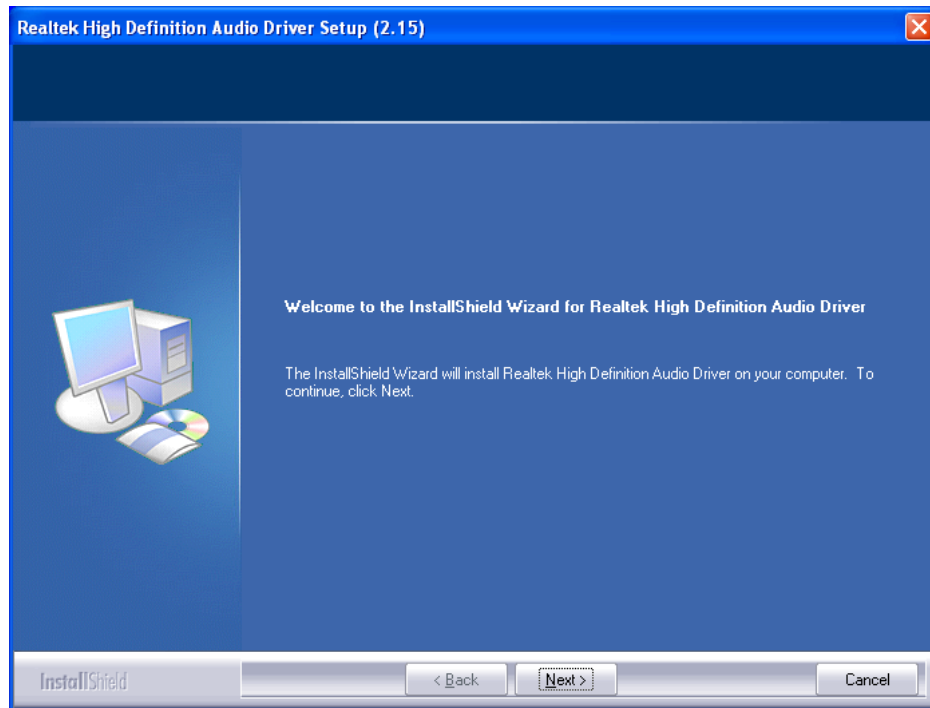

Figure 6-23: HD Audio Driver Welcome Screen
Step 3: The **Welcome** screen in Figure 6-23 appears.